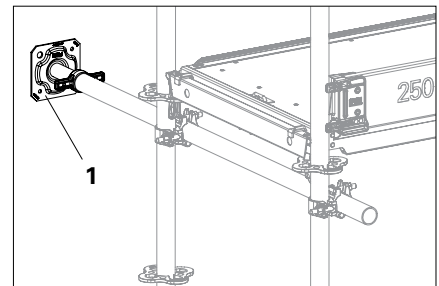

Fig. A3.01b
⇒ The Adjustable Base Plate UJS (1) must be secured to prevent falling out. (Fig. A3.01b)
PERI recommends inserting an Adjustable Base Plate UJS (1) into the scaffold tube if the distance to the wall must be adjusted more often. Secure Adjustable Base Plates against falling out. (Fig. A3.01b)